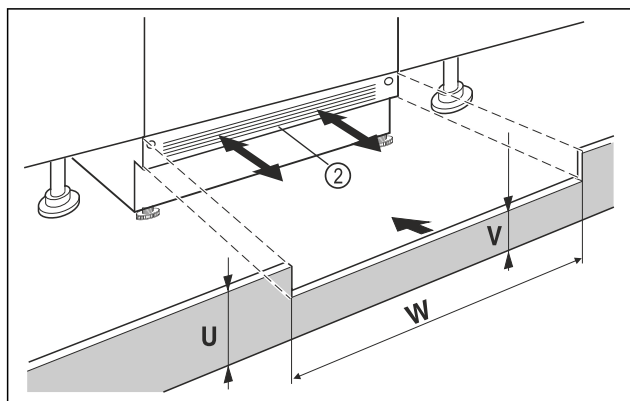

Fig. 16 Example illustration
- Put on the appliance base cover Fig. 16 (2) but do not fix it in place yet.
- If the base panel is visible Fig. 16 (2), pull it forwards so that the front edge of the ventilation grille and the unit base panel are level.
- If the base panel is concealed Fig. 16 (2), push it all the way back.
- Ensure that the ventilation slots are completely free: If necessary, cut the height of the unit base panel Fig. 16 (U) to size!
- Adjust the web height Fig. 16 (V) under the appliance base panel Fig. 16 (2) along the niche width Fig. 16 (W).